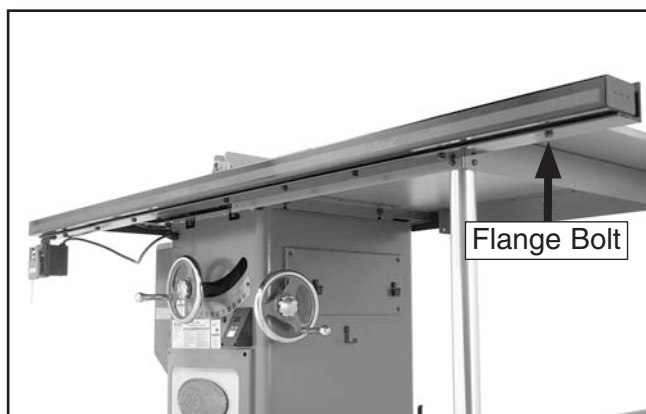

Figure 21. Fence tube mounted to front fence rail.
- Place the 91³/₈" fence tube over the 91³/₈" front rail and secure with nine M8-1.25 x 12 flange bolts as shown in **Figure 21**.